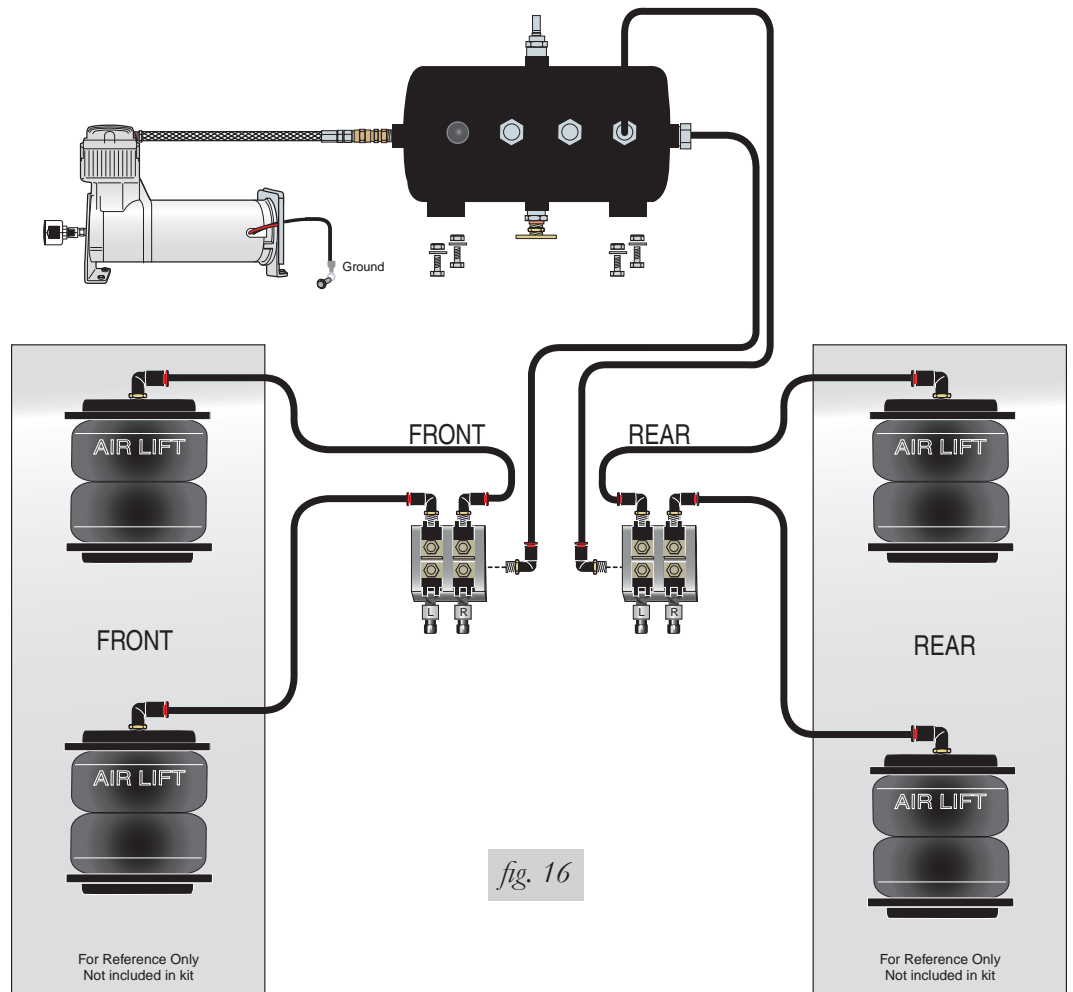

fig. 16
2. Using a standard tube cutter, a razor blade, or a very sharp knife, squarely cut two pieces of 1/2" air line to go between each of the front air springs and the two ports of the manifold (Fig. 16).
6. Attach the fitting at the end of the braided leader hose on the compressor to the end port of the air tank (Fig. 16).